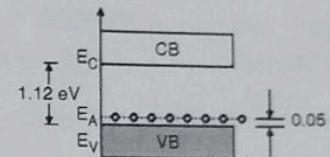

Fig. 1.2.4 : Acceptor level in p-type semic
- The addition of an impurity adds an allowed level E_A at a very the valence band as shown in Fig. 1.2.4
- At T = 0°K all acceptor levels at E_A are vacant as shown in Fig. 1.2.4, but the conduction band is empty.